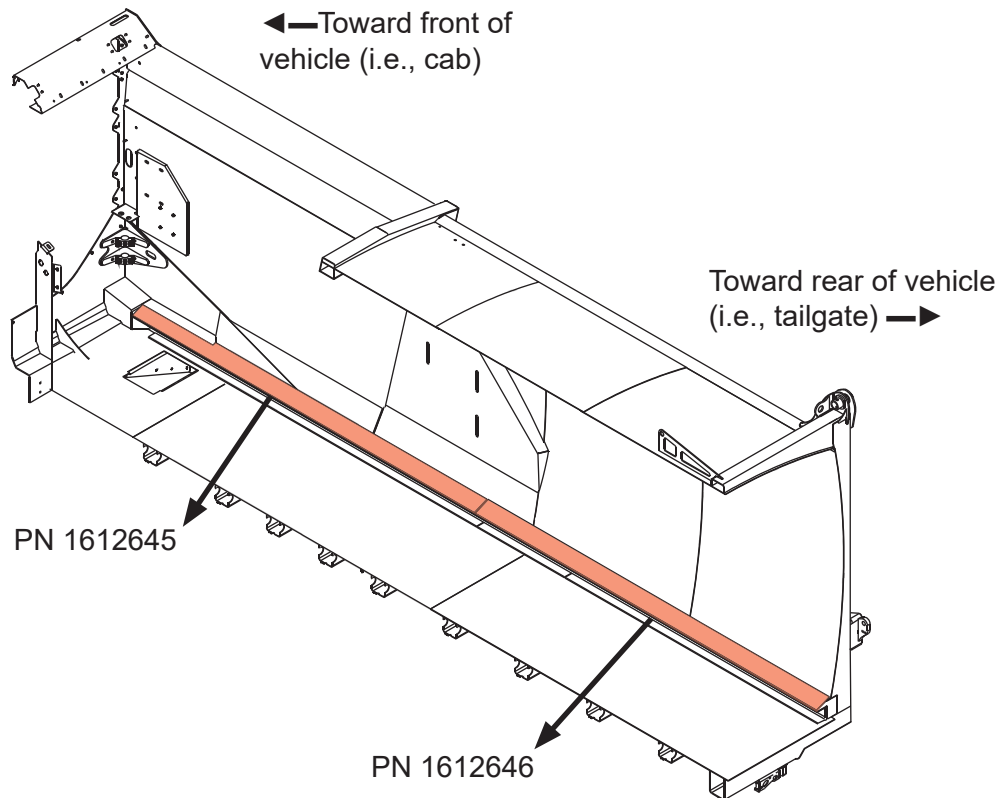

Figure 1
1. Install one PN 1612645 and one PN 1612646 ejector track top closeouts on one side of the body (curb side shown in Figure 1 for illustrative purposes. Some items removed for clarity).